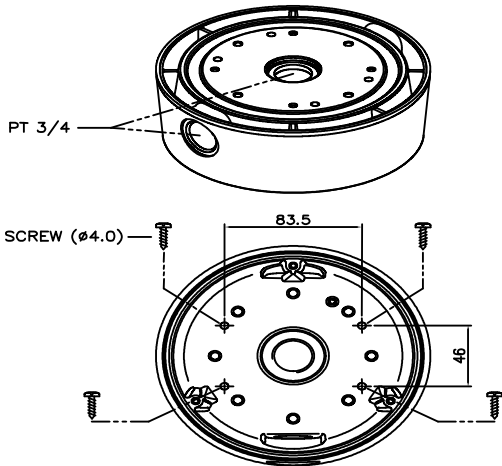

FIG. 4
1. Fix the surface mount adaptor with 4pcs of screws on the place where you want to install. (FIG.4)